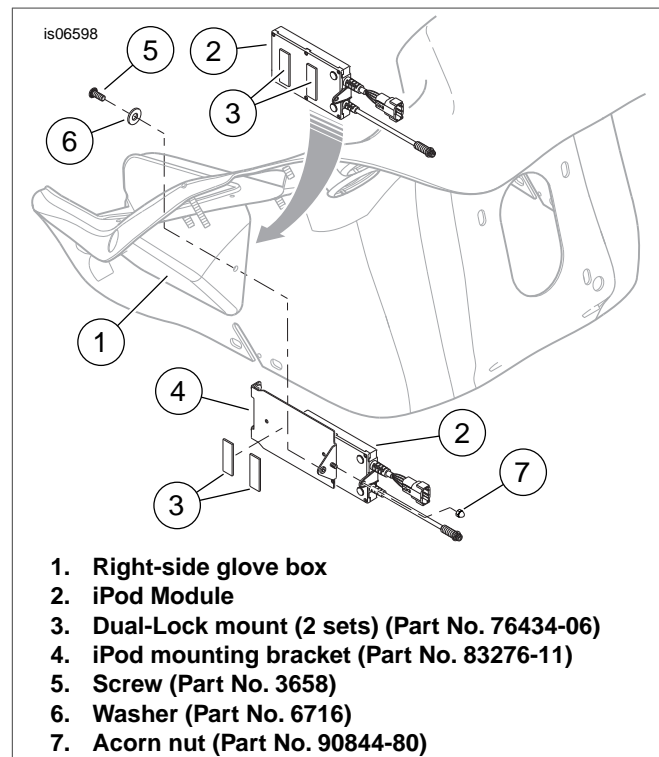

Figure 2. Alternate iPod Module Mounting Configurations for FLTR and FLTRX Models
**For FLTR and FLTRX models**, the iPod Interface Module can be mounted on the inner fairing, right-side glove box inboard wall using either of these methods (see Figure 2):